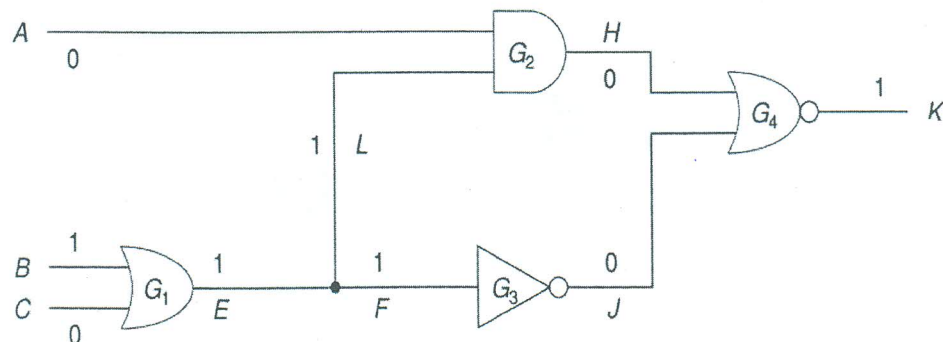

fig.3Q (C)
3C. Generate the list of faults that can be detected for the logic diagram shown in fig.3Q (C) by test vector 010 using deductive fault simulation. (3M)